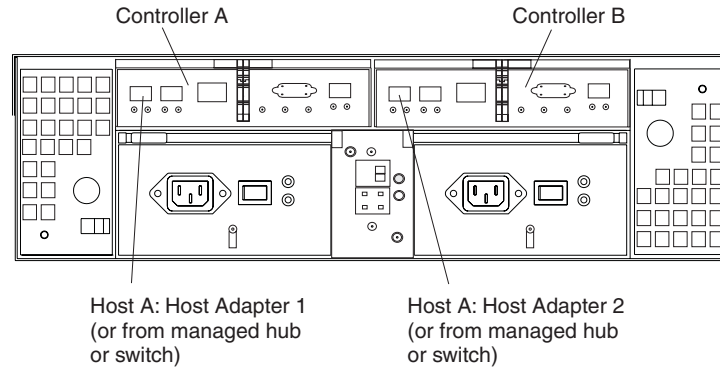

Figure 36. Location of host cables (Model 60U/60X)
2. Connect the host-system Fibre Channel cables between the RAID controller host ports and the HBA ports or Fibre Channel switch ports. Figure 36 on page 39 shows the location on the RAID controllers where the host-system cables connect.